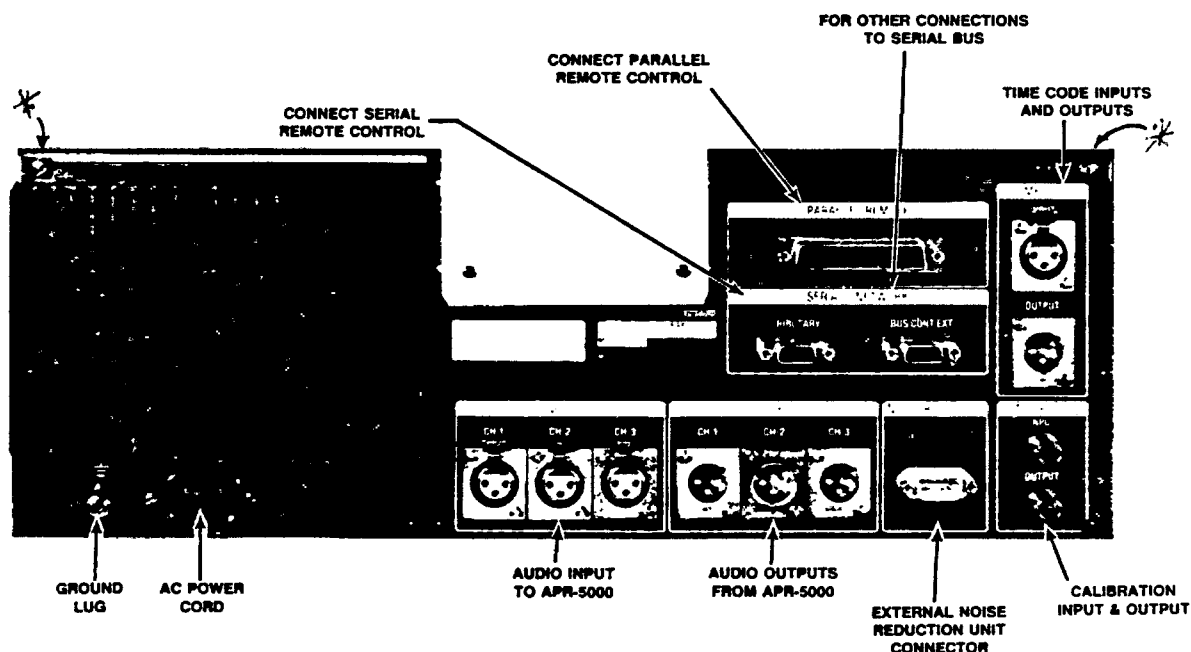

Figure 6-11. RMD Board Access
STEP 1 Remove the screws on the upper rear door and open the door. This will expose the RMD board for adjustment. (Refer to Figure 6-11)